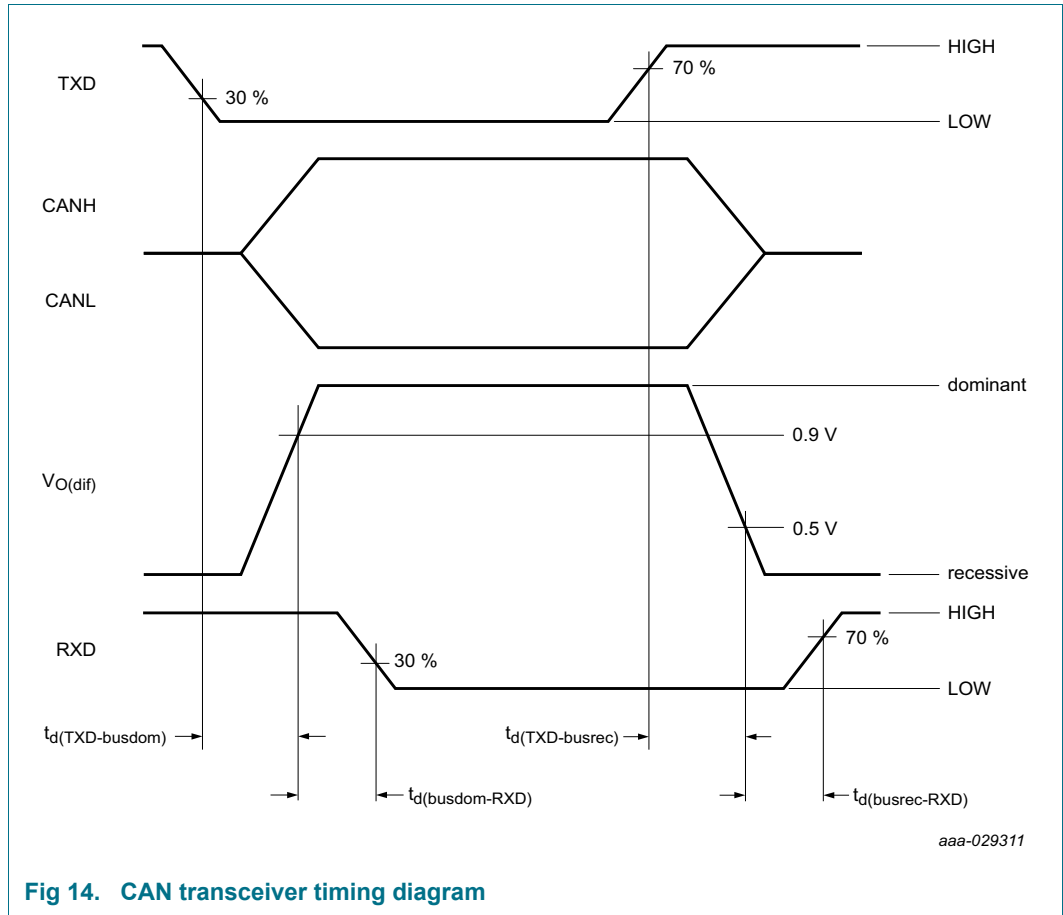
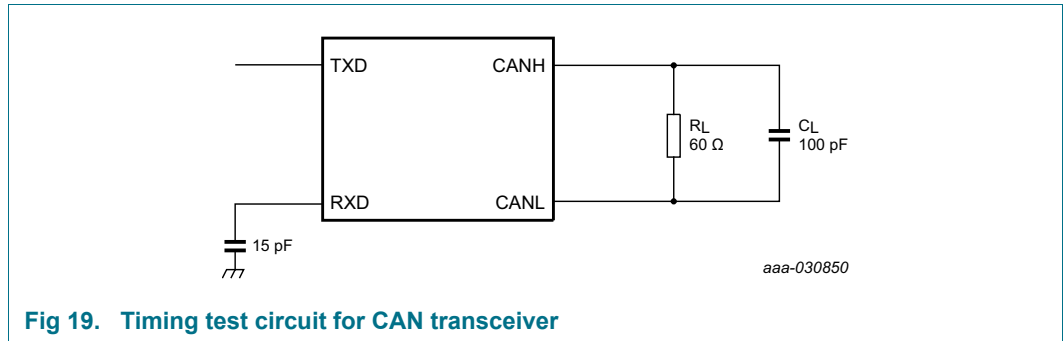

Fig 14. CAN transceiver timing diagram
Fig 19. Timing test circuit for CAN transceiver
- [2] See Figure 14 and Figure 19.
- [3] See Figure 15 and Figure 19.